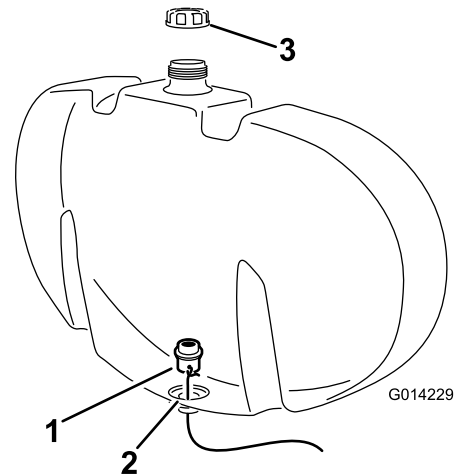

Figure 3
Note: Use the wire to guide the bulkhead fitting to the open hole in the bottom of the rinse tank (Figure 3).
4. Move the bulkhead fitting into position, ensuring that the O-ring seats against the interior wall of the rinse tank (Figure 3).